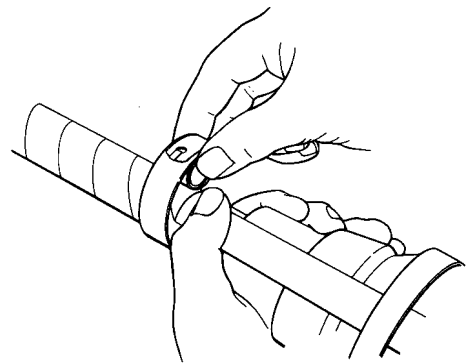

Figure 6
- b. Hold the coil and shield strap in place with thumb (Figure 6). Pull (to unwrap) the coil around the cable and rewrap around cable metallic shield and itself.